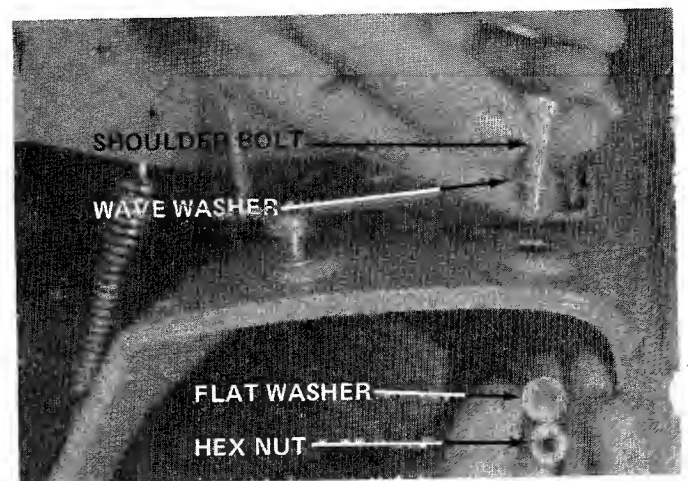

FIGURE 5
2. Place one wave washer over special shoulder bolt. See figure 5.
3. Place shoulder bolt and wave washer down through holes provided in deck. See figure 5.